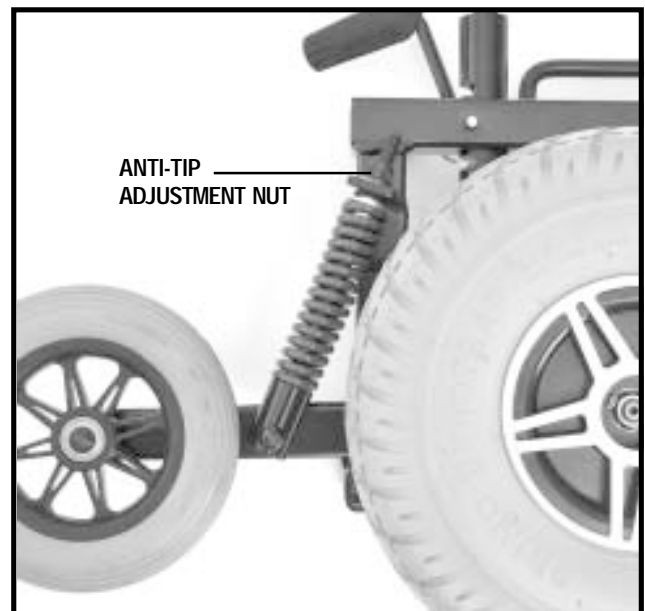

Figure 29. Anti-tip Wheel adjustment
8. Locate the anti-tip adjustment nut. See figure 29.